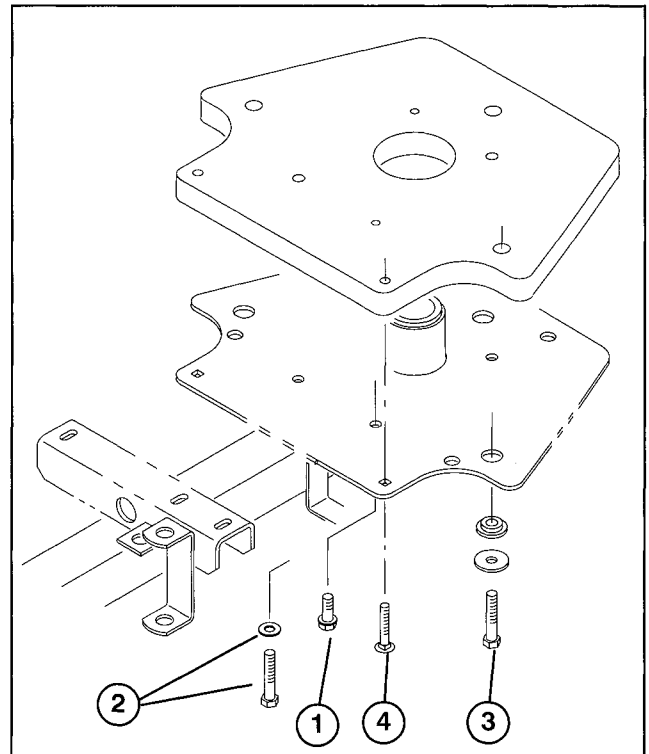

Figure 21
TO INSTALL REAR WEIGHT KIT, Part No. 83–9370 (Fig. 21)
2. Remove (2) carriage screws and flange locknuts securing battery hold down to rear frame and remove hold down and battery. Discard fasteners.
3. Remove (3) capscrews, flatwashers and grommets securing fuel tank to rear frame. Set fuel tank aside. Retain flatwashers and grommets for reinstallation.
5. Using threaded holes in weight, secure it to frame with (2) 3/8 –16 x 1.00" lg. flange head screws as shown in figure 21.
8. Using threaded holes in second weight, secure it to first weight and frame with (2) 3/8 –16 x 2.00" lg. capscrews and flat washers as shown in figure 21.
9. Position fuel tank on weight(s) aligning mounting holes. Secure tank in position with (3) 3/8 –16 x 2.00" lg. capscrews (one weight) or (3) 3/8 –16 x 3.00" lg. capscrews (two weights) and flatwashers and grommets previously removed.
10. Reinstall battery and battery hold down. Secure hold down to rear frame with (2) 5/16 x 1.75" lg. carriage screws (one weight) or (2) 5/16 x 2.75" lg. carriage screws (two weights).